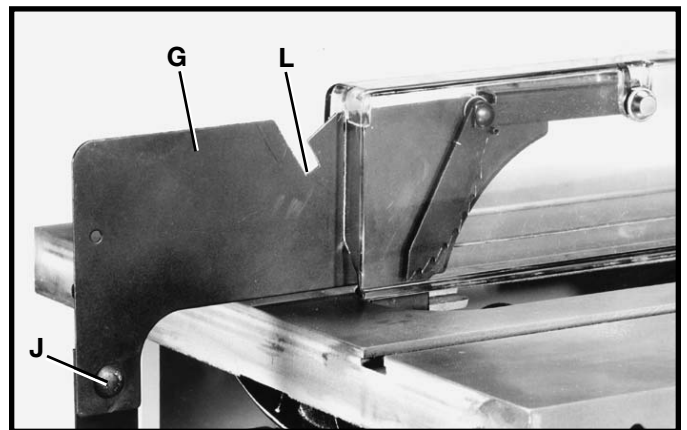
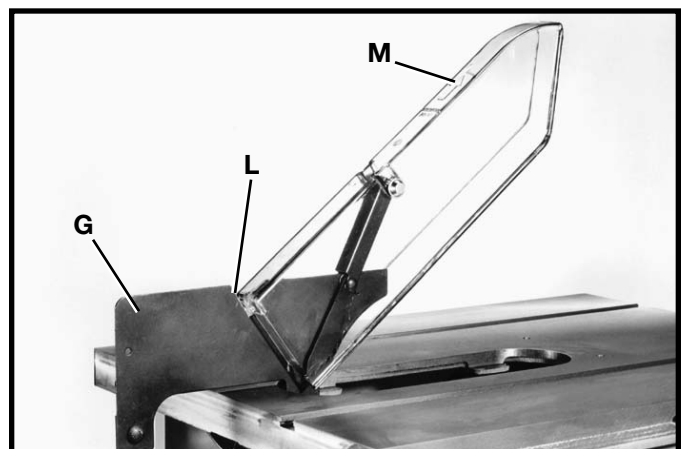

Fig. 33
Fig. 34
8. Fasten the rear of the blade guard and splitter bracket assembly (G) Fig. 33, to the rear splitter mounting bracket using 5/8" carriage bolt (J), flat washer, and hex nut. **IMPORTANT:** The splitter (G) Fig. 33, has a notch (L) cut in the top edge as shown. This feature will enable the blade guard to stay in the raised position to make blade changing a little easier. Simply raise the front of blade guard (M) Fig. 34, until the rear edge of the blade guard slips into notch (L) of splitter (G); the blade guard will stay in this position.